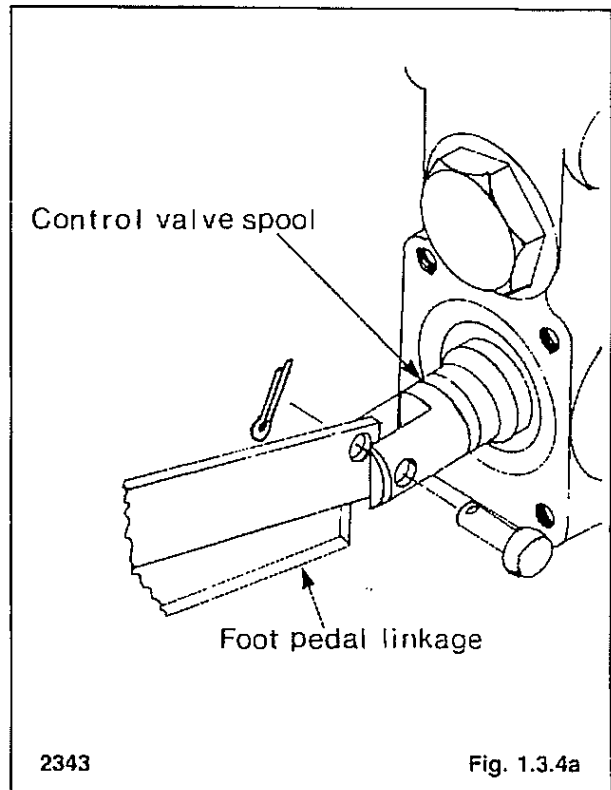

Fig. 1.3.4a
4. Disconnect the foot pedal linkage at the control valve spool (fig. 1.3.4a).